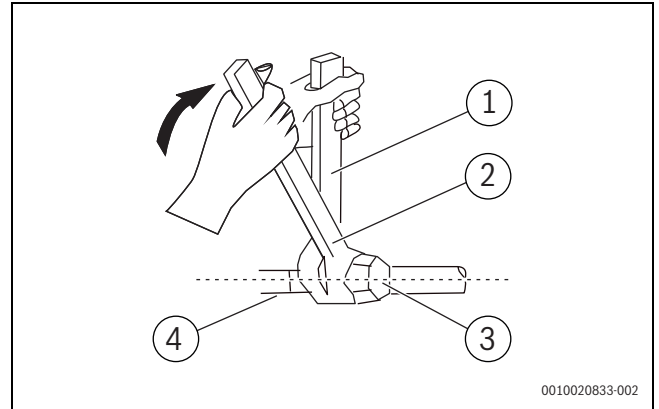

Fig. 2
- ▶ Determine the installation location, taking the minimum clearances into consideration (→ Fig. 2).